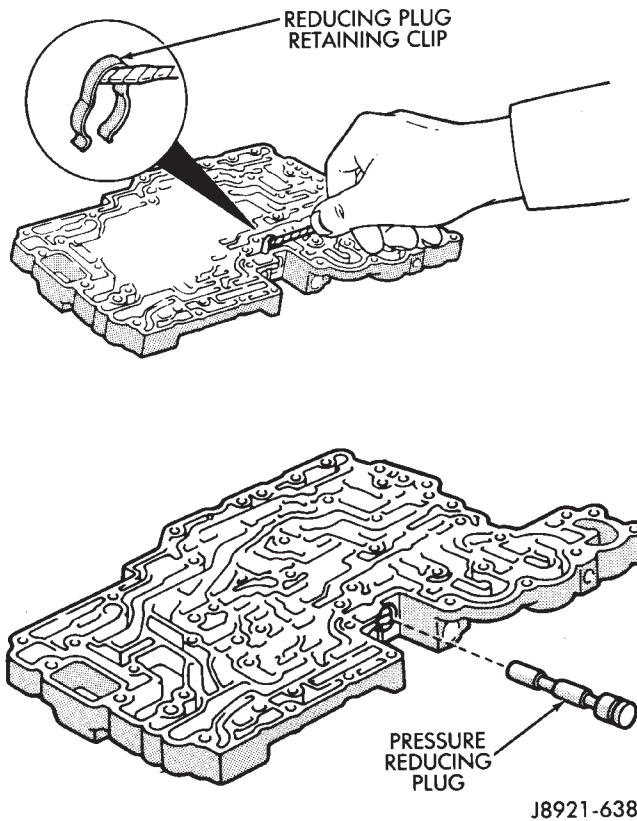

Fig. 8 Removing/Installing Pressure Reducing Plug
(9) Remove retaining clip and remove pressure reducing plug (Fig. 8). Cover screwdriver blade with tape to avoid scratching valve body surface.
(4) Install pressure reducing plug in plug bore. Then secure plug with retaining clip (Fig. 8).